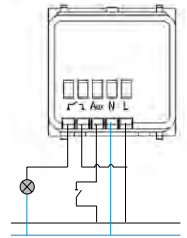

Figure 3: Basic wiring diagram
The electrical wiring of these devices is performed according to the wiring diagram shown in Figure 3.
1. Connect the device based on the wiring scheme. Figures 3, 4 and 5.